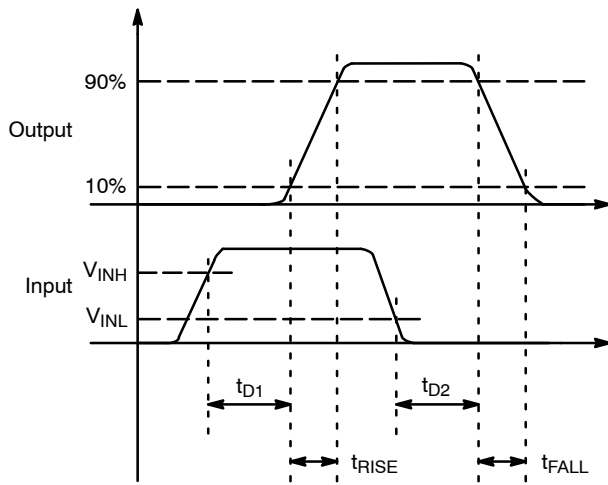
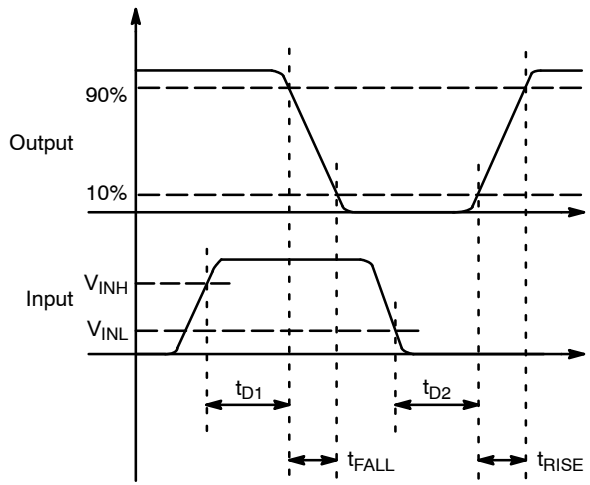

Figure 8. Non-Inverting (EN HIGH or Floating)
Figure 9. Inverting (EN HIGH or Floating)
12. See Timing Diagrams of Figure 8 and Figure 9.